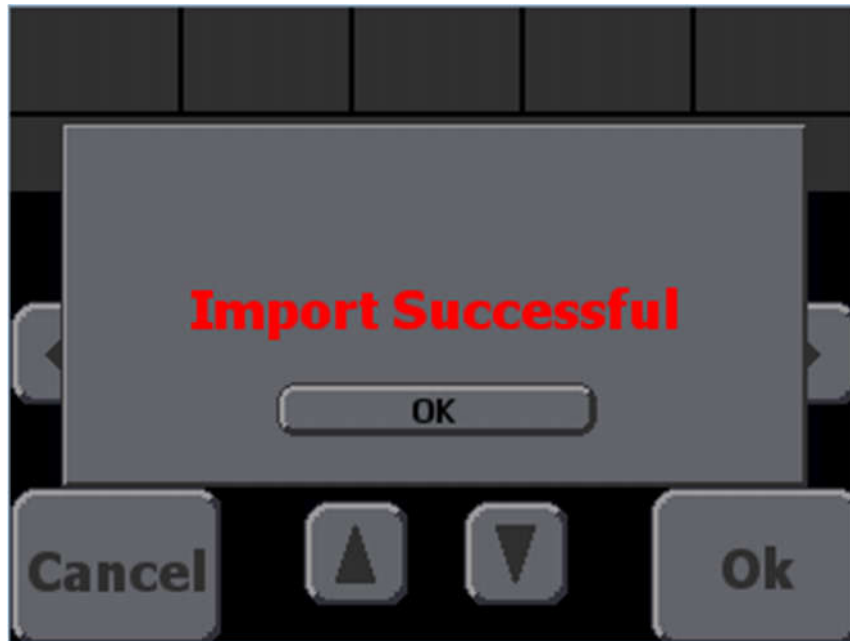

Figure 23: Import Successful Screen
STEP 15: If the file listed is the correct file, press the Ok button to begin the import process and Figure 23 will appear. Otherwise press Cancel and return to STEP 12: